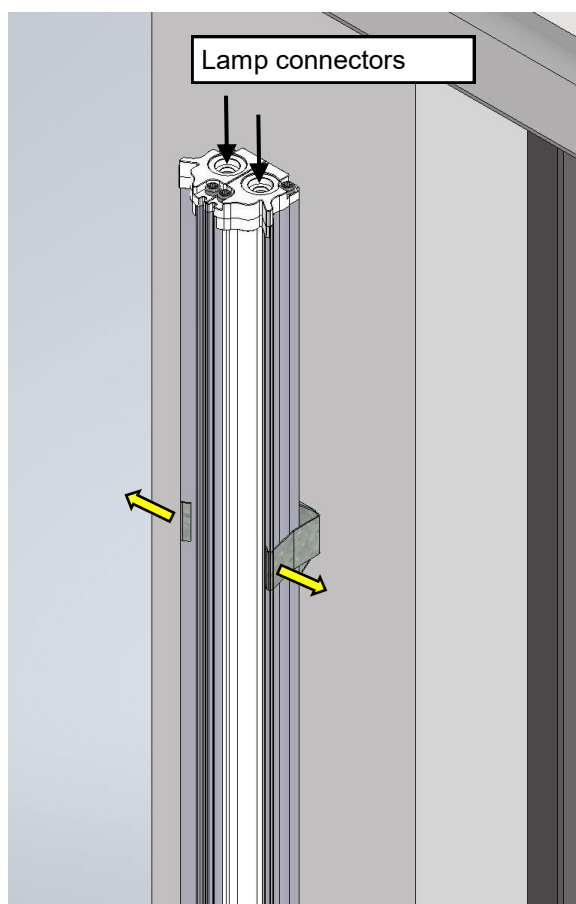

Fig. 1a
4. Unhook the lamp from the fixing springs, applying light pressure towards the sides to free the lamp (**Fig. 1a-1b**);